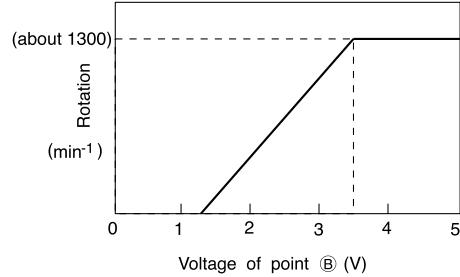

Fig. 6-3
- This pulse changes to analog voltage by R751 and C751 and it is applied to the fan motor as instruction voltage number of rotations. The relationship between the voltage of point (B) and number of rotations becomes as shown in Fig.6-3. (The gap may arise depending on the condition of unit.)
- The feedback pulse of number of rotation is outputted from the fan motor and input to micro computer pin ⑤. The frequency of this pulse is 12/60 of the number of rotations. (Ex:  $1000\text{min}^{-1} \times 12/60 = 200\text{Hz}$ ) The micro computer observes this frequency and to make it as the instruction number of rotation all the time, adjusts the output pulse width of pin ④.